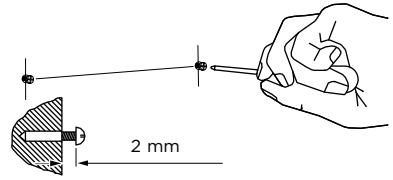
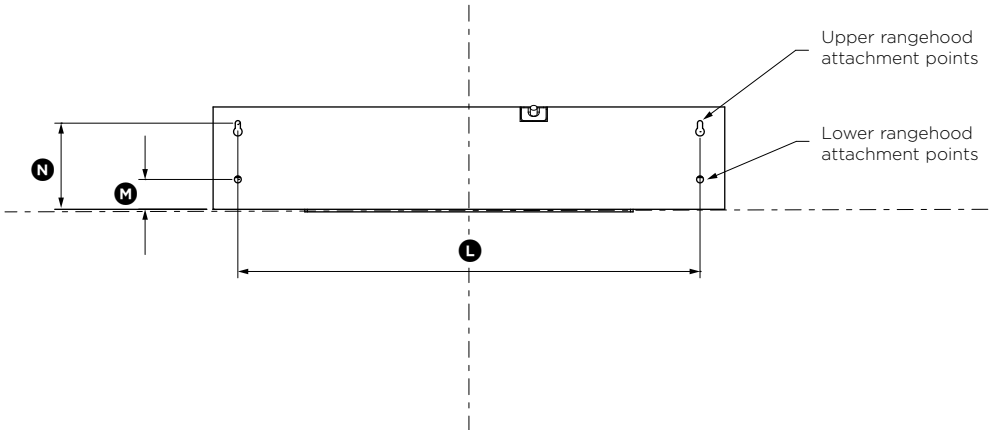

Fig.3
Fig.4
- Attach the upper rangehood mounting screws in the locations shown in Fig.4. Use 30 mm screws (and expansion plugs if attaching to masonry). Ensure that there is a 2 mm gap between the screw head and the wall (see Fig.3).